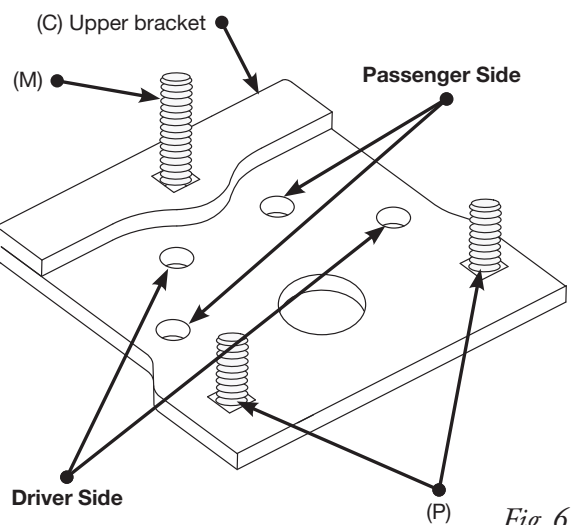

Fig. 6
5. Set the driver side (left) upper bracket onto the driver side air spring assembly previously assembled, using the holes in the upper bracket designated (Fig. 6), and attach to the air spring with two 3/8" flat washers (W), lock washers (U), and 3/8"-24 x 7/8" hex head cap screws (N). Torque both mounting screws to 20 lb.-ft (27Nm).